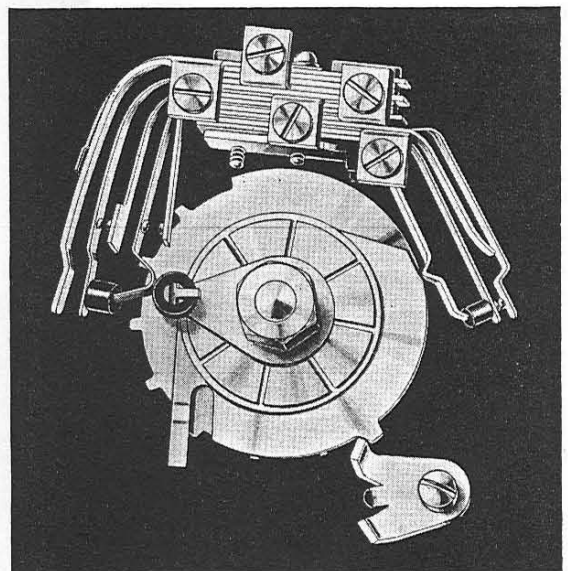

FIG. 4.—SLIPPING-CAM TYPE DIAL—MECHANISM
5. Operation of the slipping-cam mechanism. The pulse wheel is keyed to the main spindle and the slipping cam is frictionally coupled to the wheel by steel washers under the pressure of the phosphor-bronze spring washer. Movement of the cam is restricted by its two lugs engaging a forked stop mounted on the dial case. The mechanism in its normal position is shown in Fig. 4.